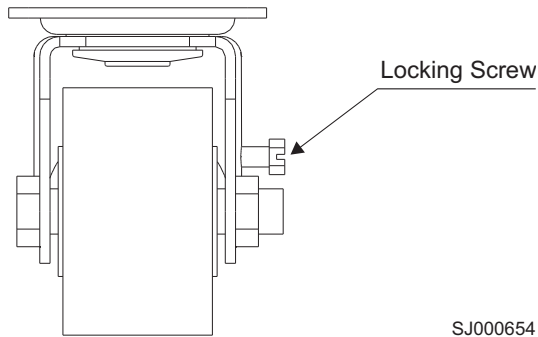

Figure 65. Caster wheel
3. Lock each caster wheel by tightening the screw on the caster. See Figure 65.